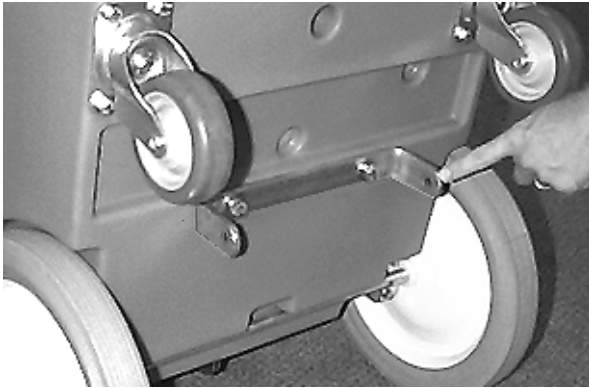

FIG. 3
4. Install squeegee mounting bracket as shown. Secure with screw and washers that you removed (Figure 3).